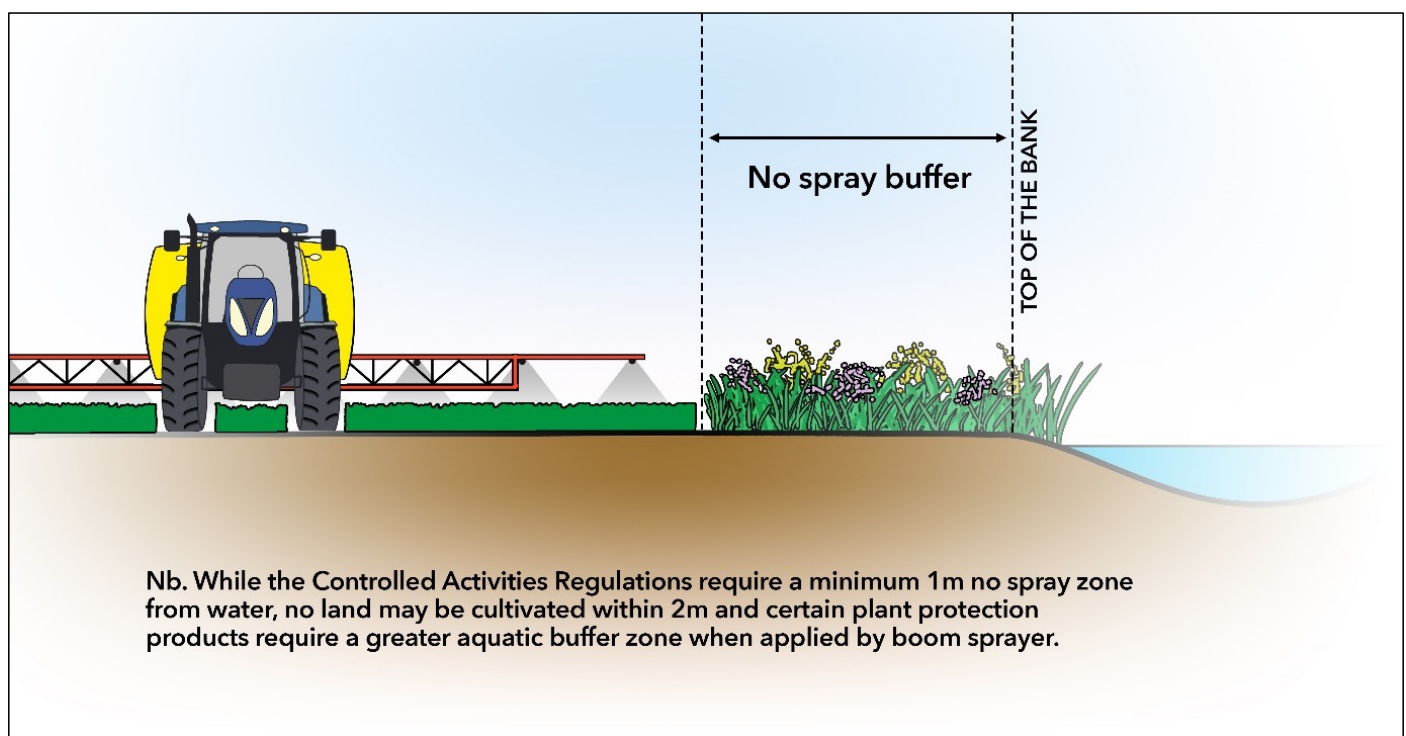

Figure 12.1. No spray buffer zone
- within 1 metre of the water environment (Figure 12.1)